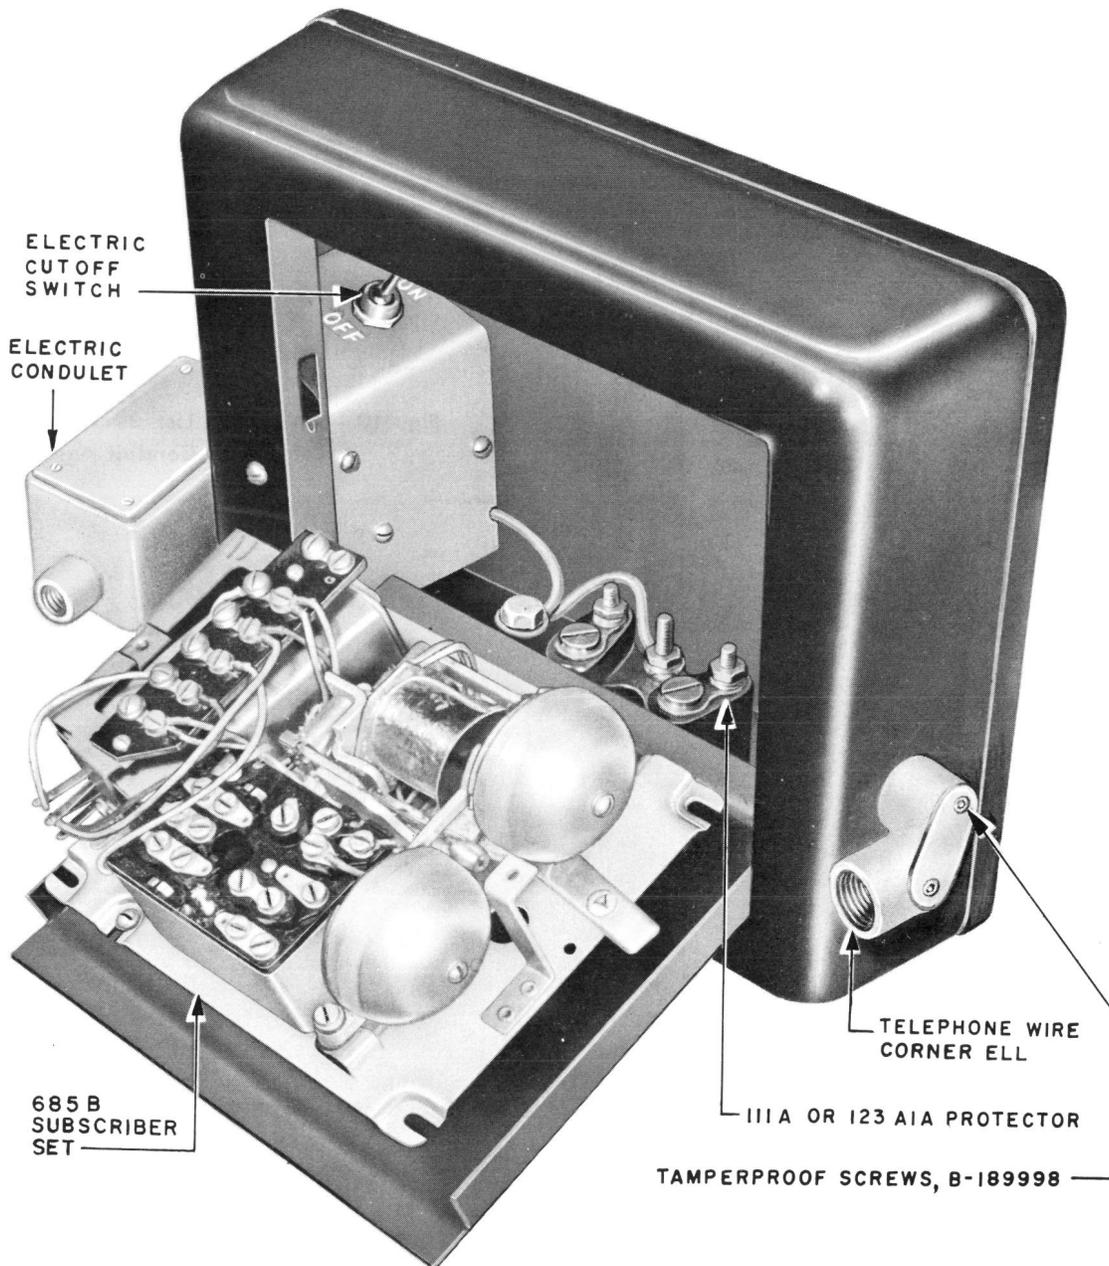

Fig. 12 — Subscriber Set Housing Assembly
**3.08** Telephone service enters through conduit which connects to corner ell on right side of subscriber set housing. Tamperproof screws are used to secure the cover on the telephone wire corner ell. A station protector is provided in the housing for wire termination (Fig. 12).